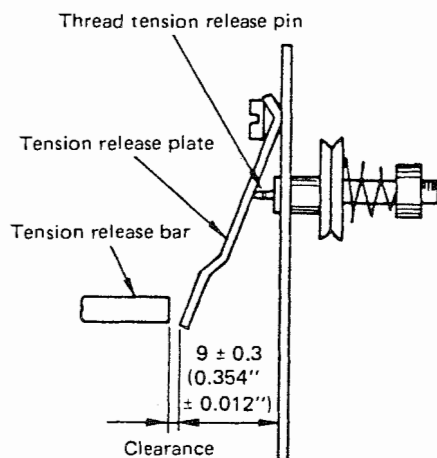

Fig. 20
- ★ If the proper clearance shown in Fig. 20 is not provided, the tension discs will be released, which may cause loose starting stitches after thread trimming or may cause the needle thread to wind round the hook.